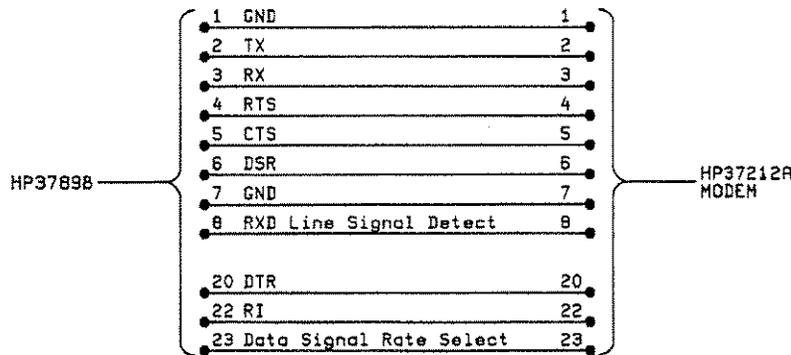

Figure G-5
5. The interconnecting cable between modem and HP 3784A is a direct pin for pin matching cable connection as shown below in Figure G-5..